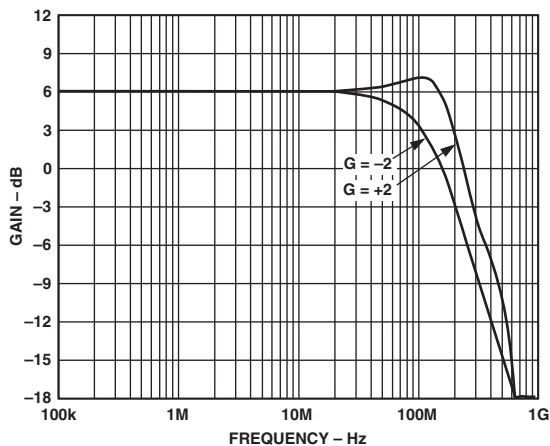

Figure 11. AC Response of Two Identically Compensated High-Speed Op Amps Configured for Gains of +2 and -2
3. Match bandwidth in gain blocks with different noise gains, such as when designing differential amplifiers (as shown in Figure 11 of the Applications section).
The AD8021 is uniquely suited as a low-noise differential driver for many ADCs, balanced lines, and other applications requiring differential drive. If pairs of internally compensated op amps are configured as inverter and follower, the noise gain of the inverter will be higher than that of the follower section, resulting in an imbalance in the frequency response (see Figure 11).